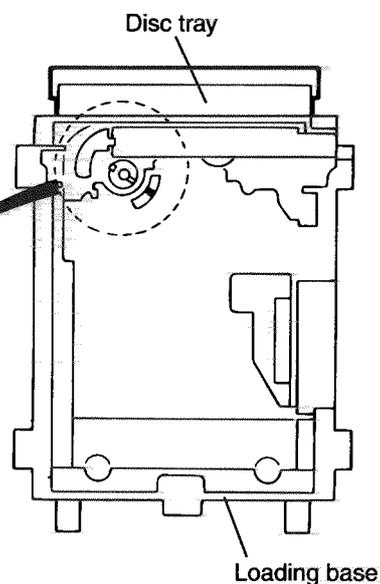

Fig. 2
■ Removing the Loading Tray (See Fig.2~5)